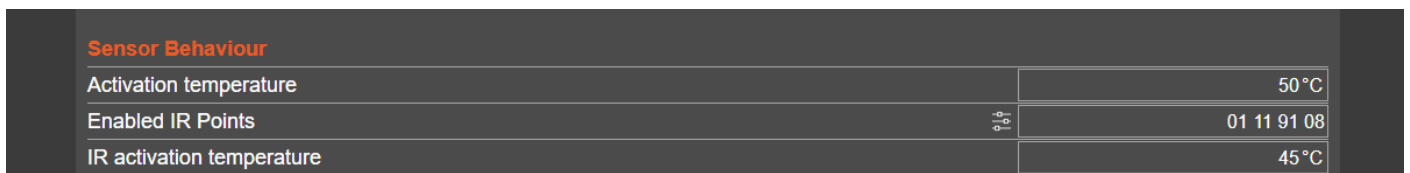

Figure 90 - Activation temperatures
**Note:-** Sensors sold prior to June 2025 have the default activation set to the 50° and 45° shown in Figure 90, it is recommended to raise these values if the data is not required, doing this will increase battery life of the sensor. Sensors sold after June 2025 will have default values of 100°C for both parameters